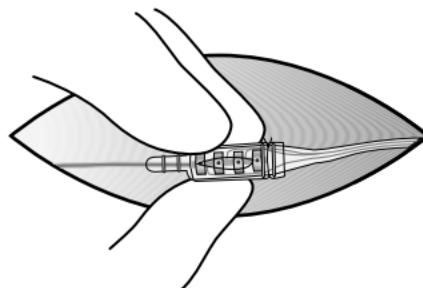

Figure 16. Hold setscrew connector block between thumb and two fingers.
5. Hold each setscrew connector block firmly between thumb and two fingers to prevent rotation while loosening setscrews (Figure 16).